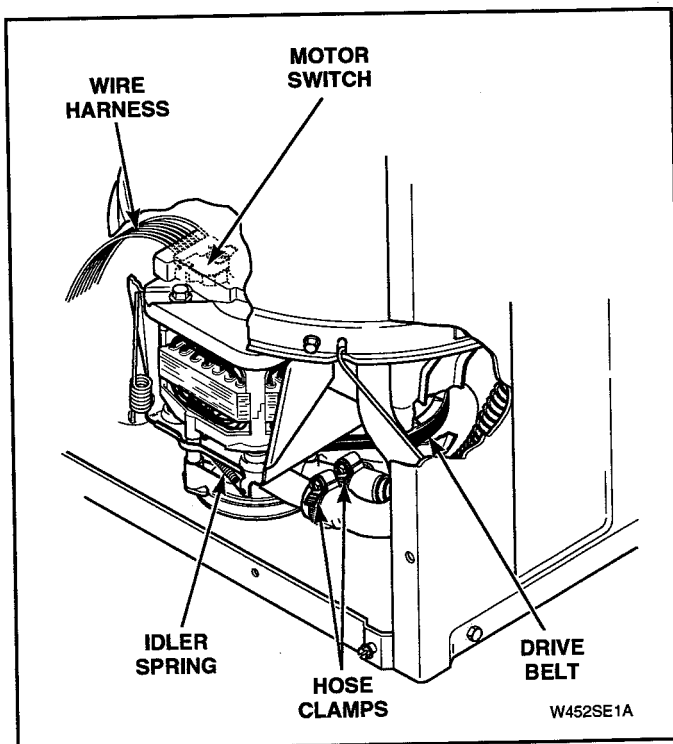

Figure 5-17
- d. Loosen hose clamps and remove hoses from pump assembly. See Figure 5-17.
- e. Unhook idler spring from clip on front of motor mounting bracket. See Figure 5-17.
- f. Reach in and around right side of motor and run belt off right side of large drive pulley. See Figure 5-17.
- e. Unhook idler spring from idler lever. See Figure 5-17.